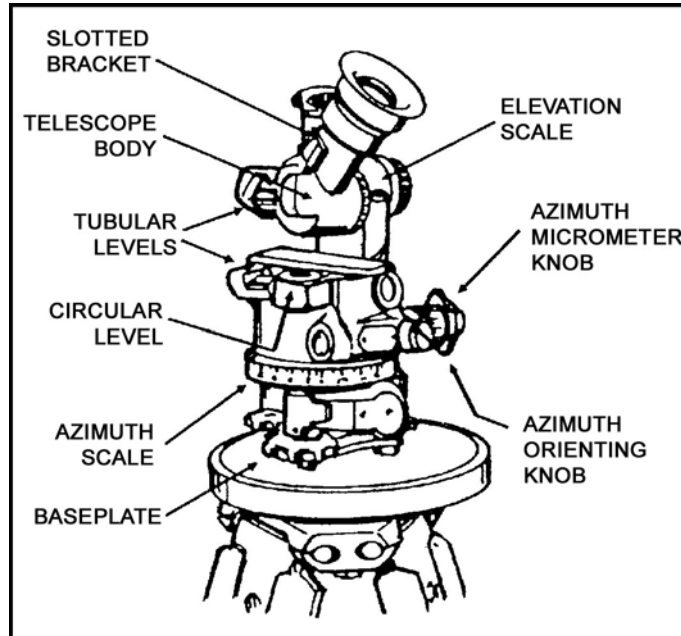

Figure 2. Azimuth micrometer.
- d. With the recording motion, rotate the instrument to zero. Release the magnetic needle, look through the magnifier, and use the azimuth micrometer to center the needle (Figure 2).